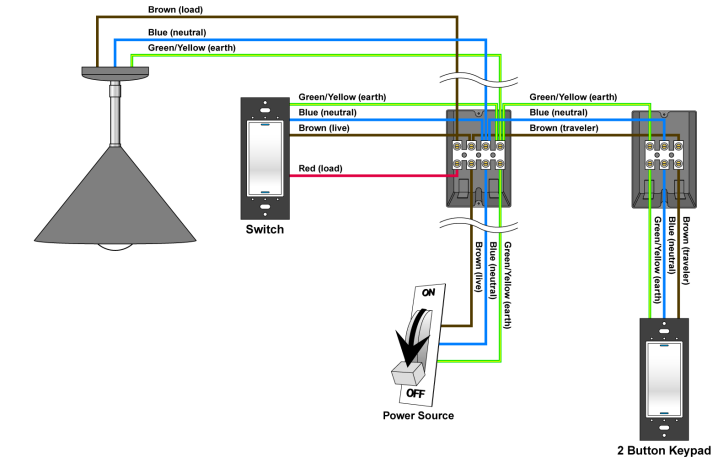

Figure 3. Wiring: Two-Location Scenario
1. Wire the switch into Wall Box #1 by using a 4-position terminal connector to connect the following wires (illustrated in Figure 3):
2. Wire the multi-button keypad into Wall Box #2 by using a 3-position (or greater) terminal connector to connect the following wires (illustrated in Figure 3):